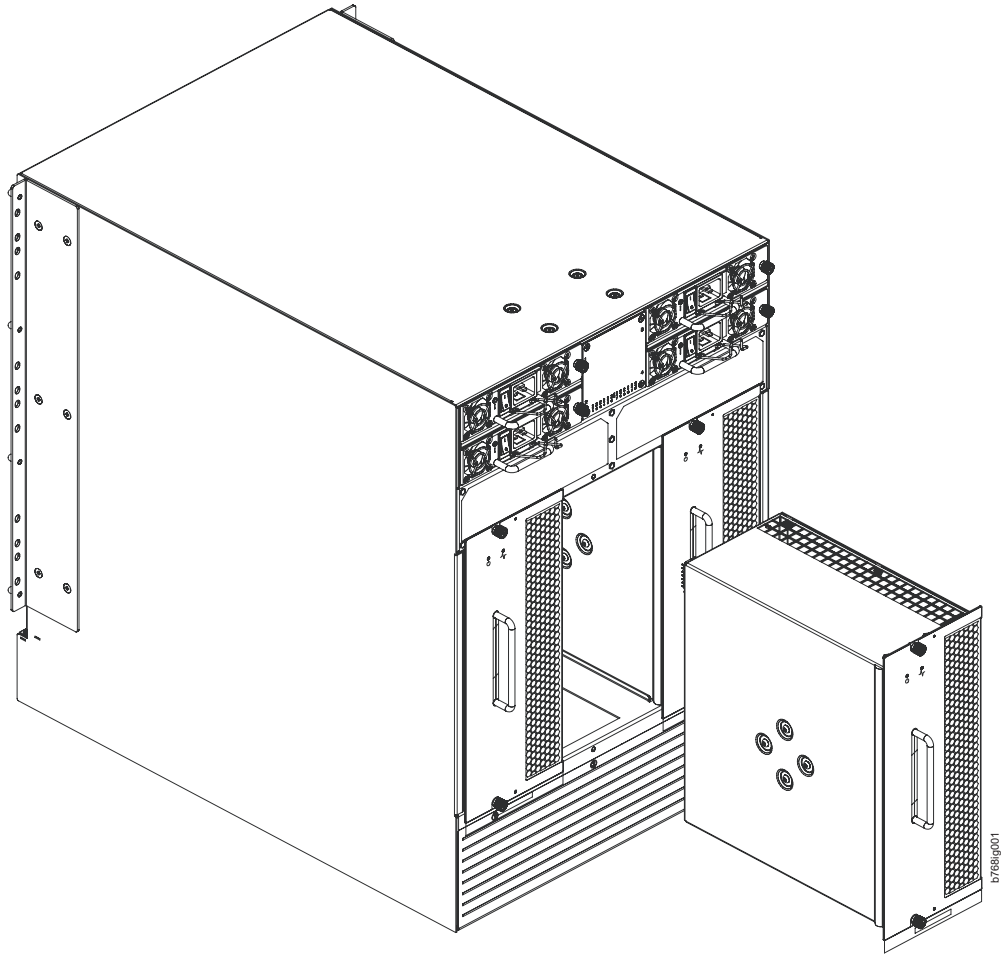

Figure 38. Removal and replacement of the blower assembly
2. Use the Phillips screwdriver to loosen the captive screws at the top and bottom of blower assembly (see Figure 38 on page 92).